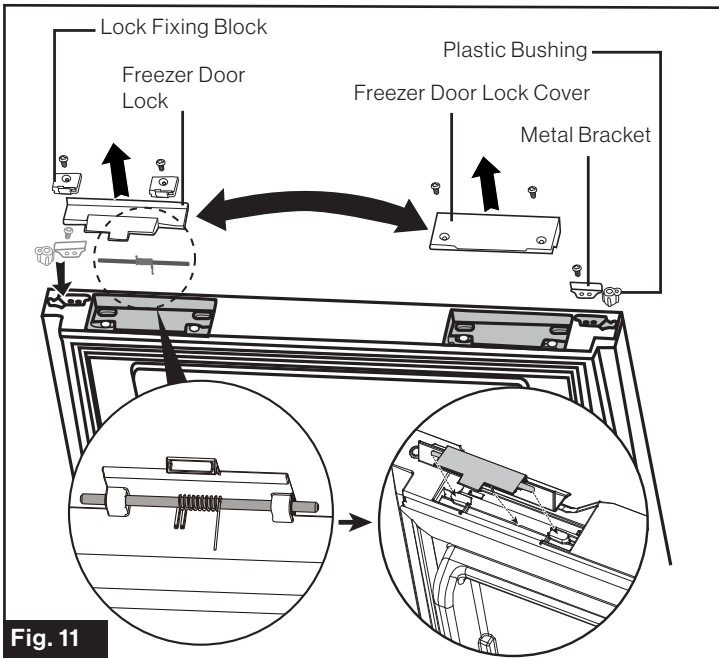

Fig. 11
3. Reverse the parts of Freezer Door Lock Cover, Metal Bracket, Plastic Bushing, Freezer Door Lock, Lock Fixing Block to the opposite side respectively. (Fig. 11)